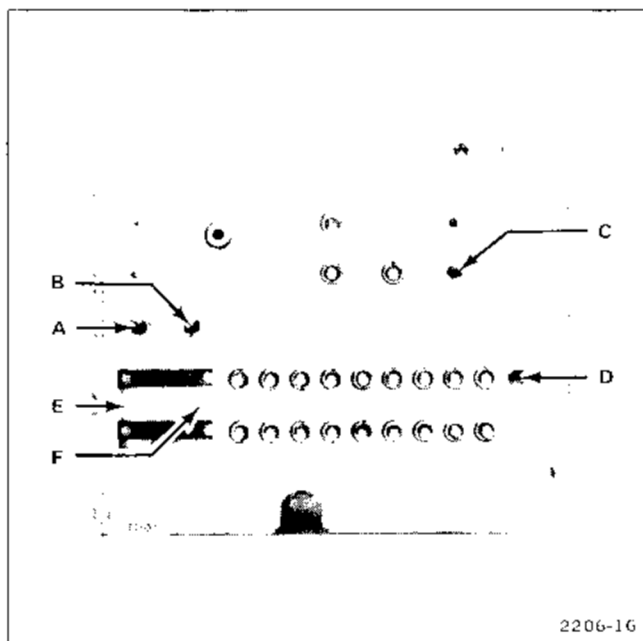

Figure 4-10. Locations of hex nuts and screws on front sub panel which secure the Word Recognizer circuit board.
9. Remove 4 hex nuts (A, B, C, and D, Fig. 4-10) and 2 flat head screws (E and F, Fig. 4-10) from front sub panel.